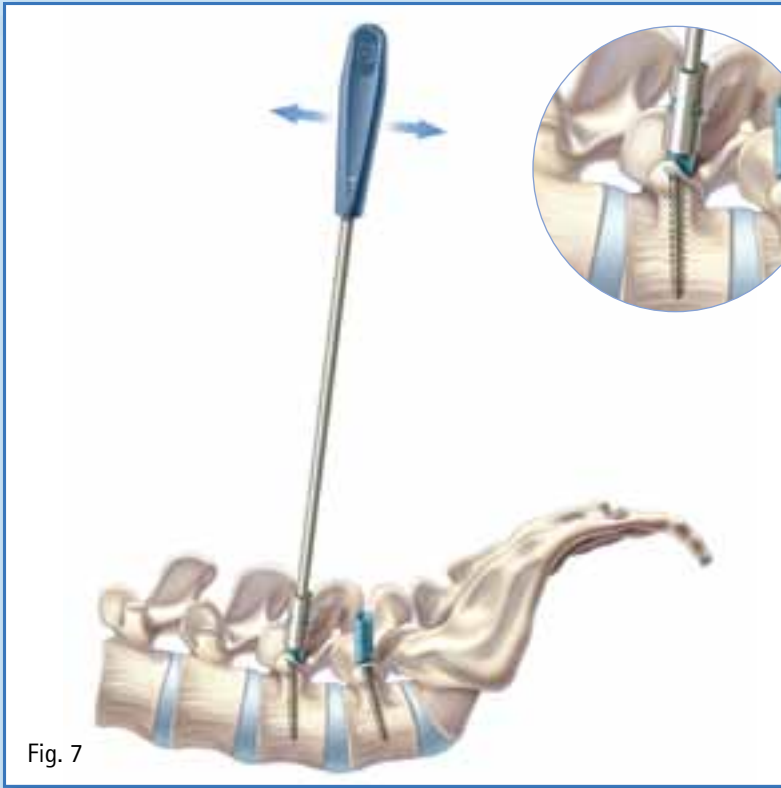

Fig. 7
- All polyaxial screw heads have 42° range of motion. If desired, align the polyaxial screw bodies using the screw body manipulator (FW180R). (Fig. 7)